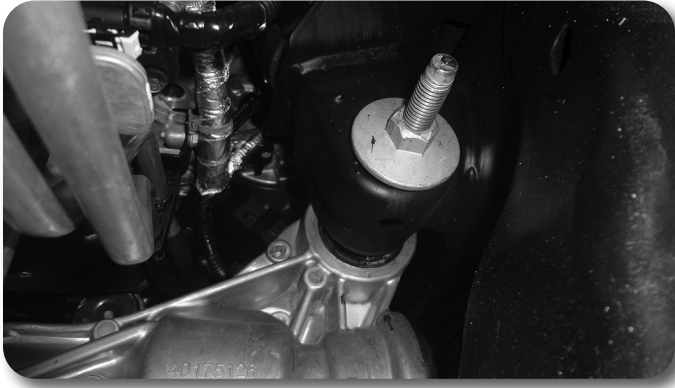
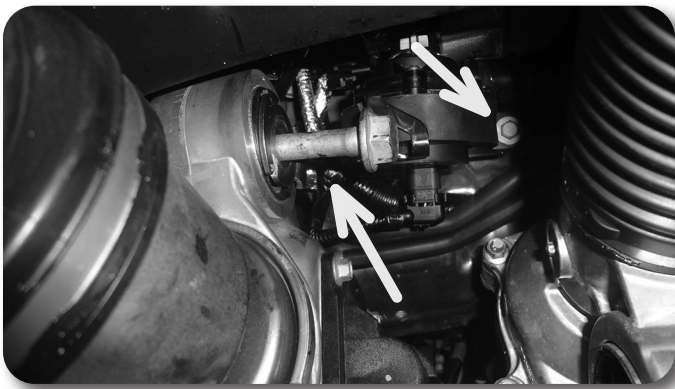

Figure 19A
Figure 19B
The bolt holding the actuator may need to be removed in order to aid in removal of the long bolt for the differential. The bolt is on the right side in Figure 19B. Reinstall the bolt for the actuator after it has been removed. It also helps to push the rear of the differential upwards to point the bolt head downwards to aid in removal.
26. Remove the nut from the passenger's side differential mounting bolt Fig. 19A. Carefully lower the differential to the ground while removing the long bolt for the passenger's side differential mount Fig. 19B. Discard the bolt, save the nut for